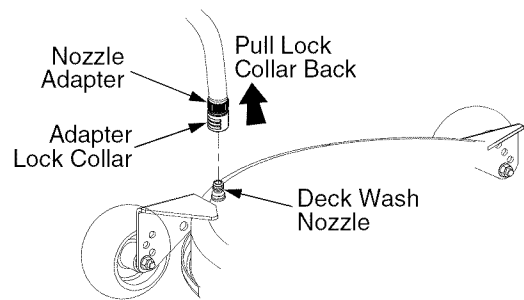

Figure 34
- Pull back the lock collar of the nozzle adapter and push the adapter onto one of the deck wash nozzles at either end of the mower deck. Release the lock collar to lock the adapter on the nozzle. See Figure 34.